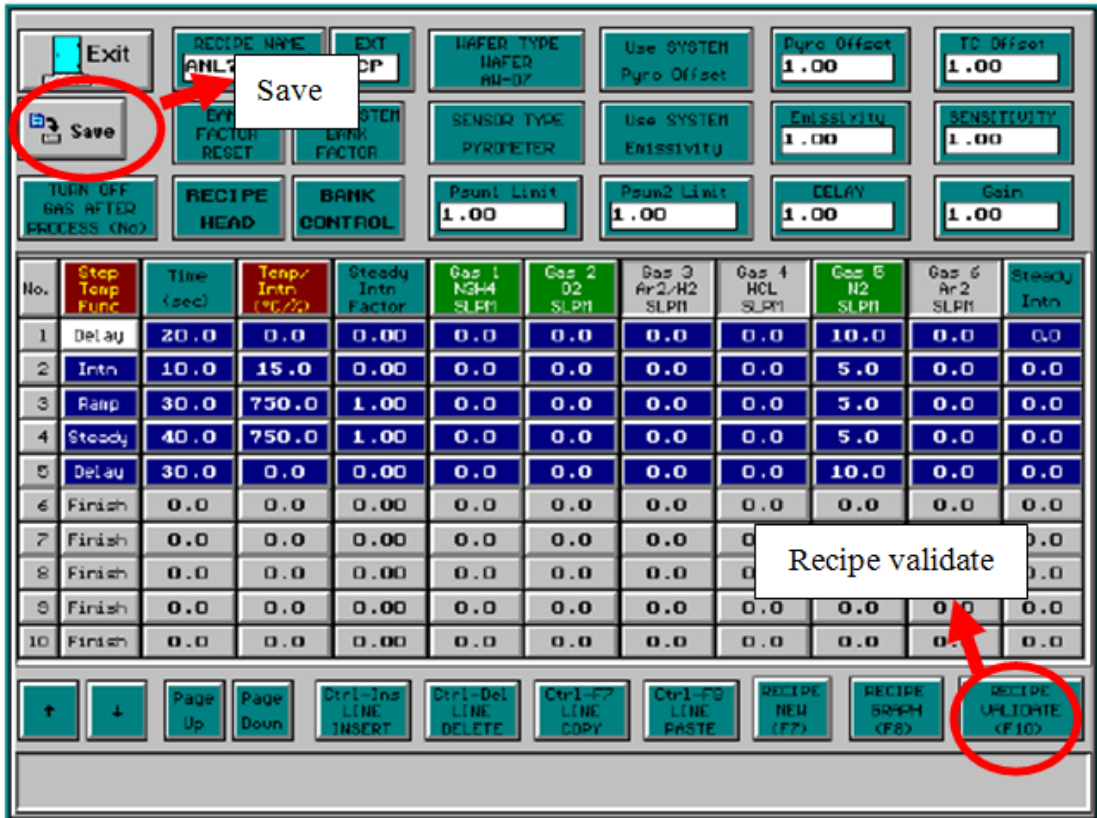

Fig.12 “RECEIPE VALIDATE” and “SAVE” buttons
4. If recipe parameters have to be changed, choose the boxes, change the numbers and click “Enter”. To save the new settings, click “RECIPE VALIDATE” first. Click “Yes” on Popup message “Congratulation! Validation Success!” and then click “Save”. After that, click “Exit” to exit this page and click “START PROCESS” to start the process (Fig.12).